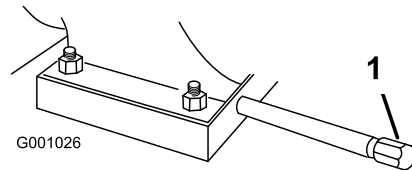

Figure 45
1. Clean the area around the oil drain cap (Figure 45).